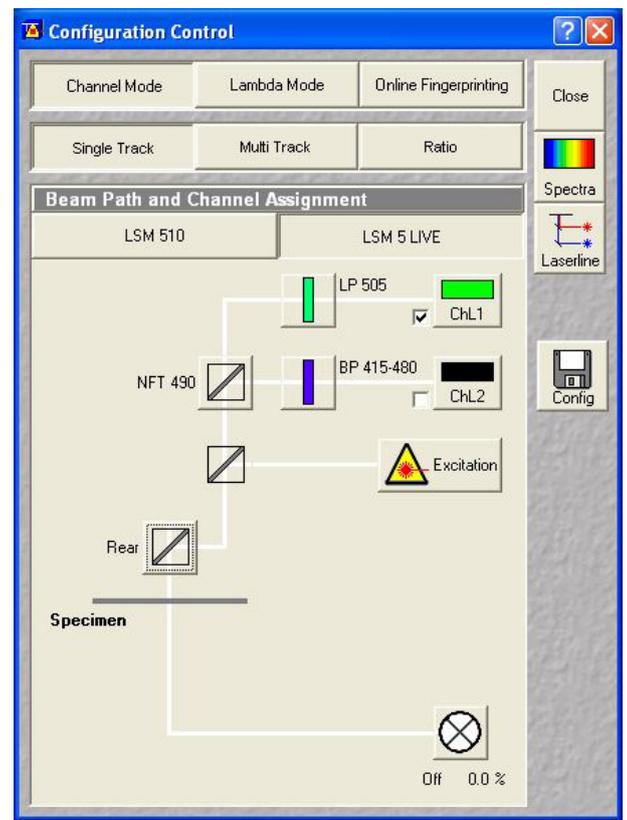

Fig. 16 Configuration Control window for Single Track (LSM 5 LIVE)
The **Configuration Control** window appears (Fig. 16).
- Select **Channel Mode** if necessary (Fig. 16).
- Click on the **Single Track** button in the **Configuration Control** window (Fig. 16).
- Click on the **LSM 5 LIVE** button (Fig. 16).